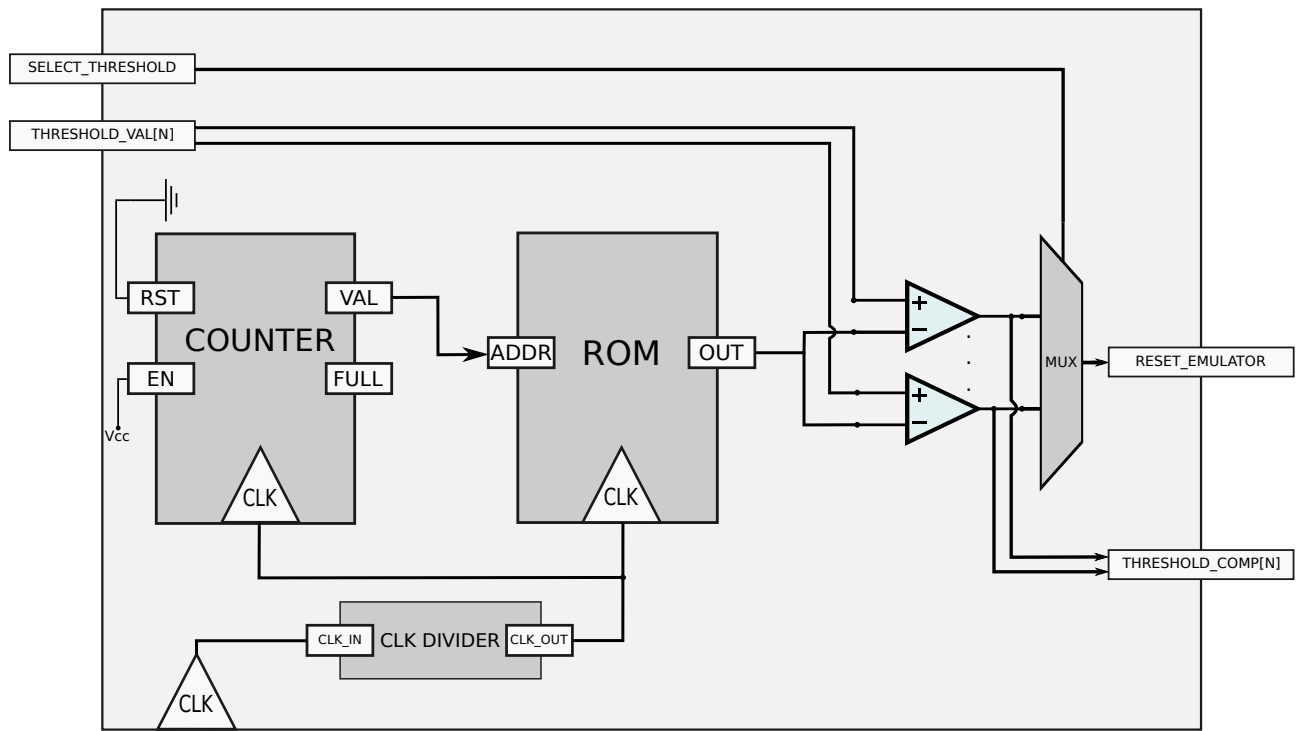

Figure 3.5: Intermittency Emulator Architecture
Intermittency Emulator (IE) (figure 3.5) is used to emulate a real case of lack of energy, in fact there is a ROM that contains a feigning voltage trace. User can set a variable number of threshold to compare with the voltage trace. One of those can be used as reset for the entity under test. The voltage trace values change each clock cycle (divided by a prescaler) thanks to a counter that is always-on. The process that manages the counter prescaled is: